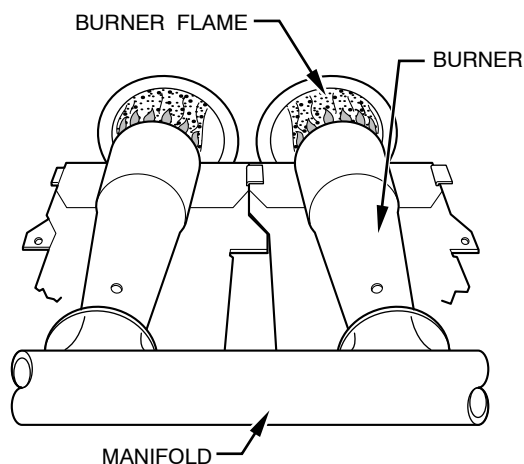

Fig. 11 - Burner Flame
16. Check furnace operation through 2 complete heat operating cycles. Look through sight glass in burner enclosure to check burners. Burner flames should be clear blue, almost transparent. (See Fig. 11.)